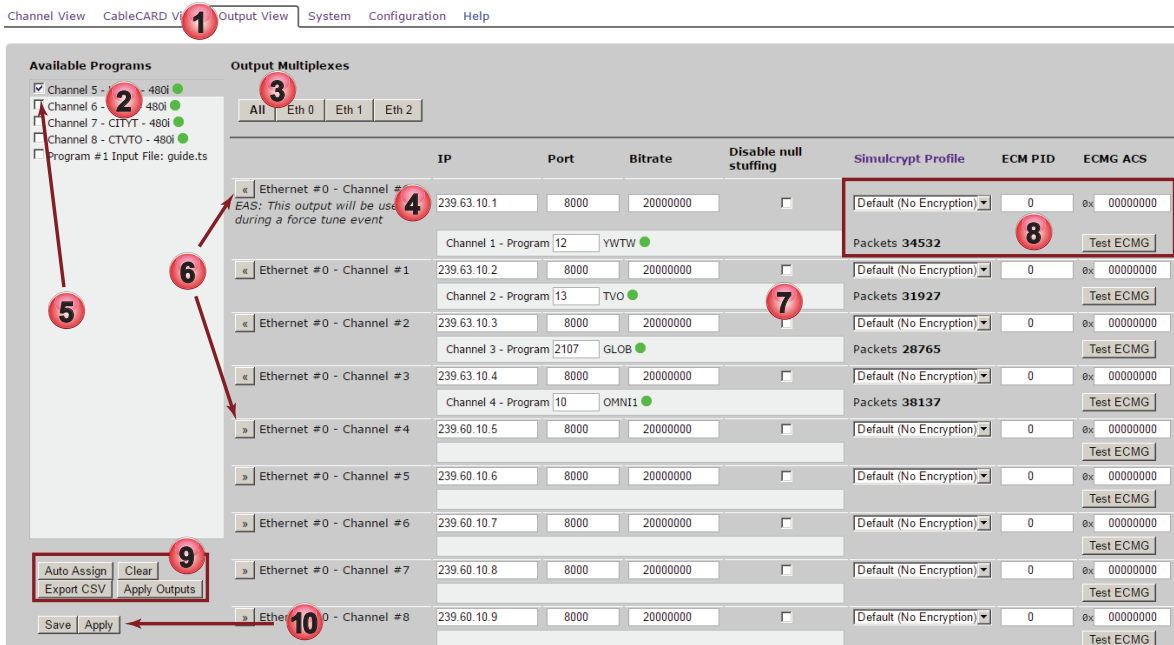

Figure 5-4: Output View - IP Output With Simulcrypt
1. Click the **Output View** tab on your SQIP (or XQIP with Simulcrypt selected) Device to find this page, Figure 5-4.
1. Click the **Output View** tab on your SQIP (or XQIP with Fixed Key selected) Device to find this page, Figure 5-4.